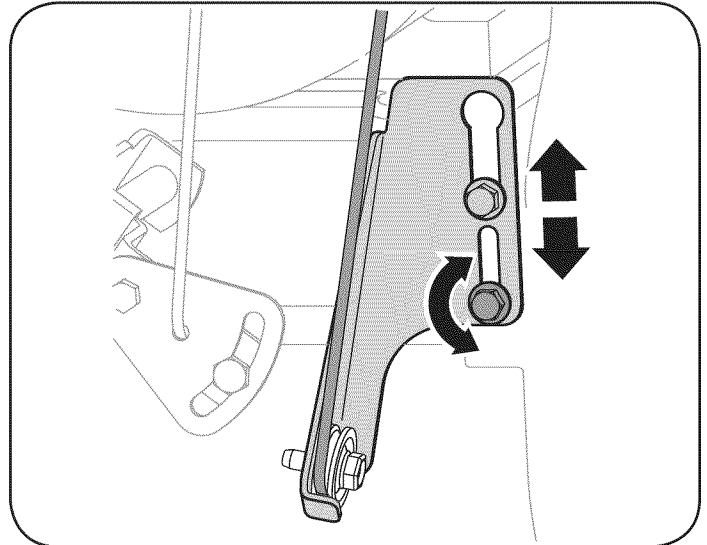

Figure 22
- b. Loosen the lower hex bolt on the drive cable bracket. See Figure 22.